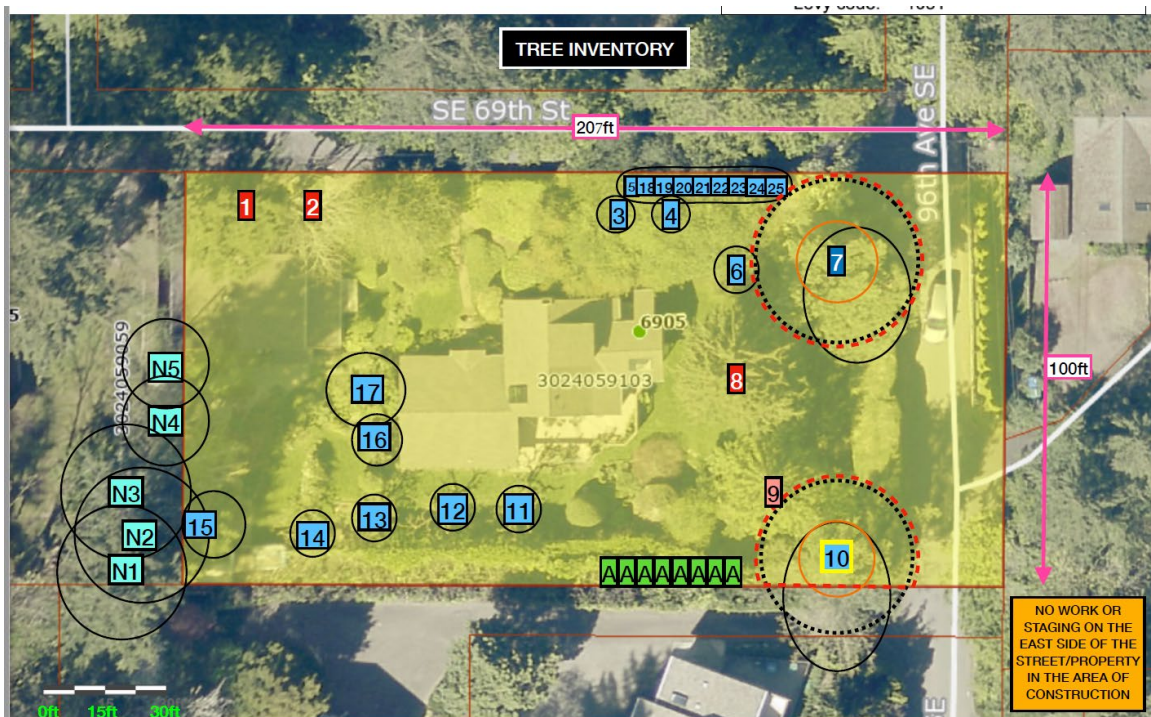
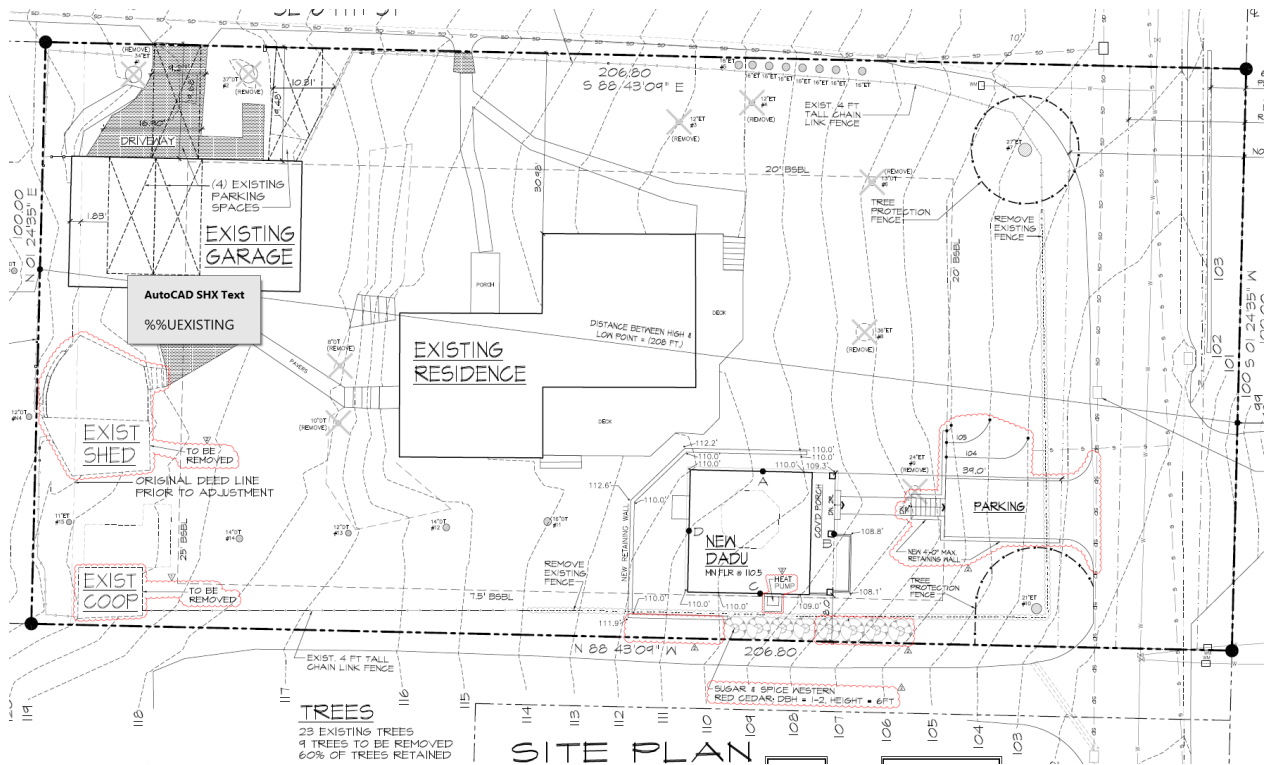

Figure 1: Approximately Location of Replacement Trees (designated with "A") as shown in the Arborist Report
Figure 2: Approximately Location of Replacement Trees as shown on the Site Plan
- Update Figure 2 to reflect the approximate location of the replacement trees on Site Plan (Sheet A0) to better match with the location shown on the arborist report submitted.
As indicated in the arborist report and on the site plan, a row of 8 sugar and spice western red cedar trees (conifers) at least six feet tall will be planted as replacement trees south of the proposed ADU as shown in Figure 1 and Figure 2 below.